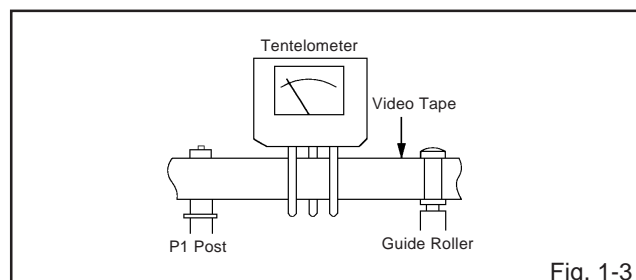

Fig. 1-3
2. Install the tentelometer as shown in **Fig. 1-3**. Confirm that the meter indicates 20 ± 2 gf in the beginning of playback.